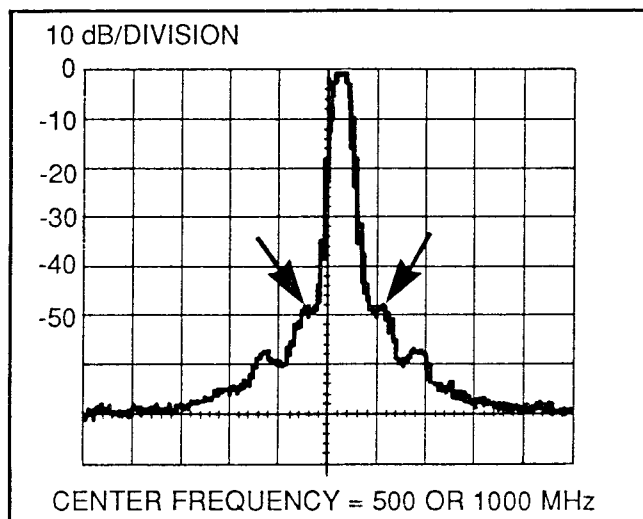

Figure 5-6. 6400 Output Signal and Close-in Sidebands
- (1) Adjust TUNING to center the source output frequency on the CENTER FREQUENCY graticule line.
- (2) Adjust the REFERENCE LEVEL control to place the top of the waveform on the REFERENCE LEVEL graticule line.
- (3) Set FREQUENCY SPAN/DIV to 20 MHz.
- (4) Observe the display; it should resemble that shown in Figure 5-6.
- (5) Set FREQUENCY SPAN/DIV to 10 ms (zero span) and readjust TUNING to place the trace on the REFERENCE LEVEL graticule line.
- (6) If applicable, position AUTO STABILIZER to ON; if necessary, readjust the TUNING control to place the trace on the REFERENCE LEVEL graticule line.
(d) Adjust the FREQUENCY SPAN/DIV and RESOLUTION BANDWIDTH controls to display the two sidebands of the 6400 output-signal (Figure 5-6).